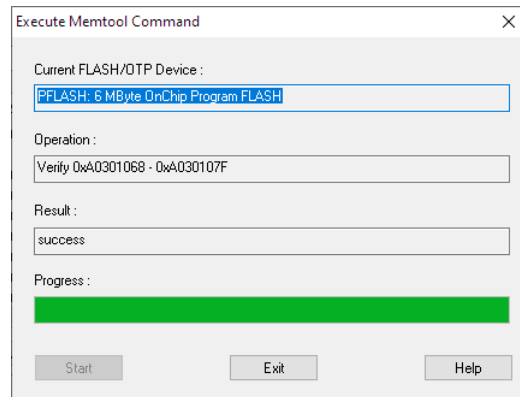

Figure 39 FLASH programming progress dialog
7. Start flashing with the **Program** button. A progress dialog appears (Figure 39). After successful programming close both dialogs via **Exit**.